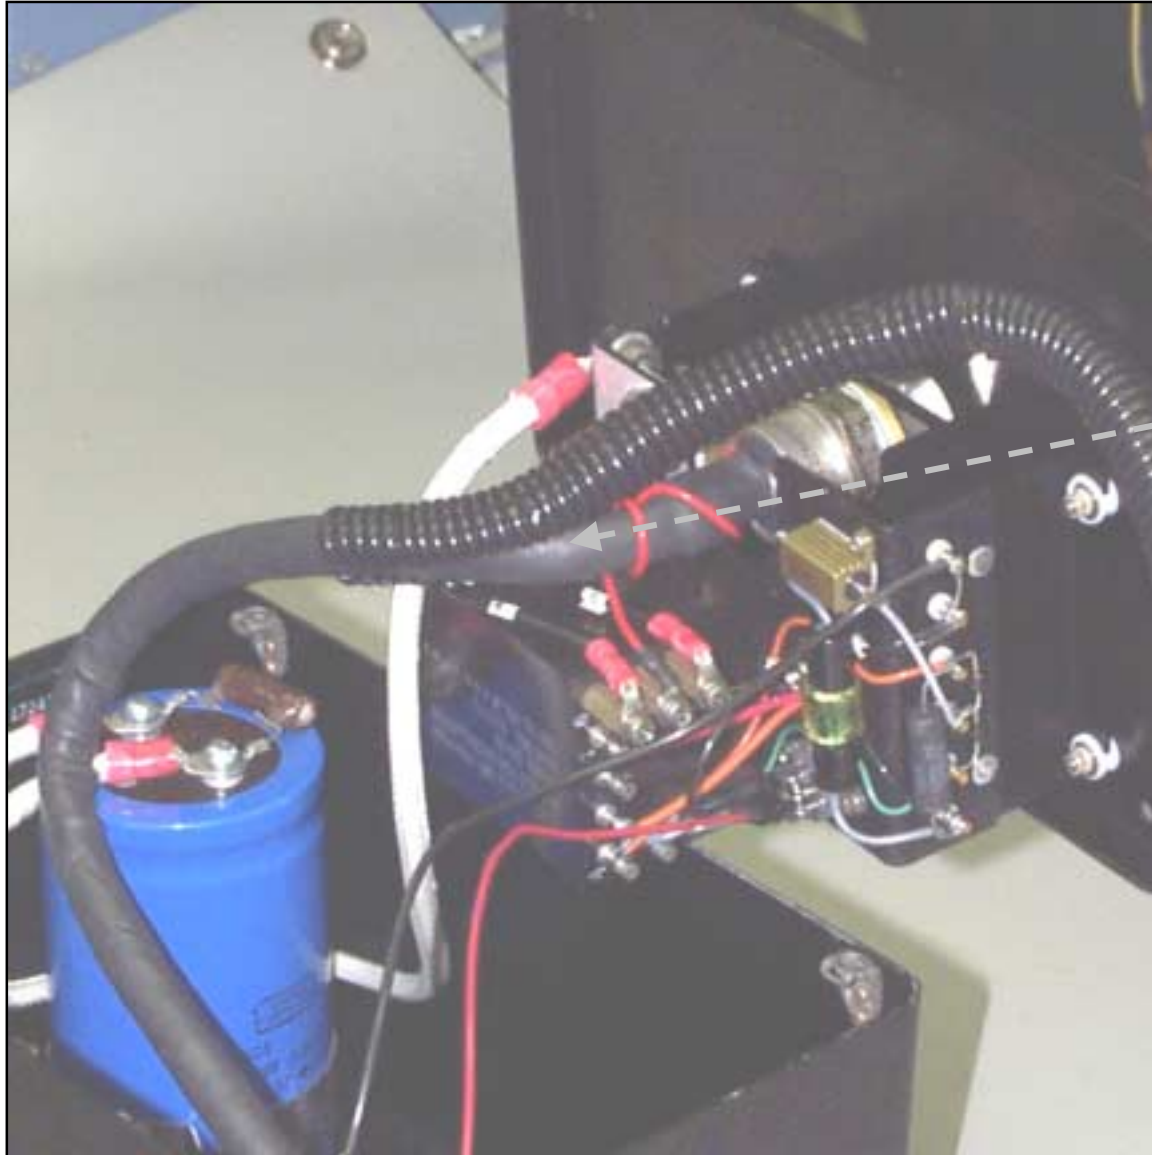

Figure 3
6. If your Junction Box has the 1-piece diode lead, you will install the (smaller size) ½" inside diameter by 12" long Convolex® tubing. Open the precut slit at one end of the tubing. Place it over the blocking diode lead, and install as shown in Figure 3.